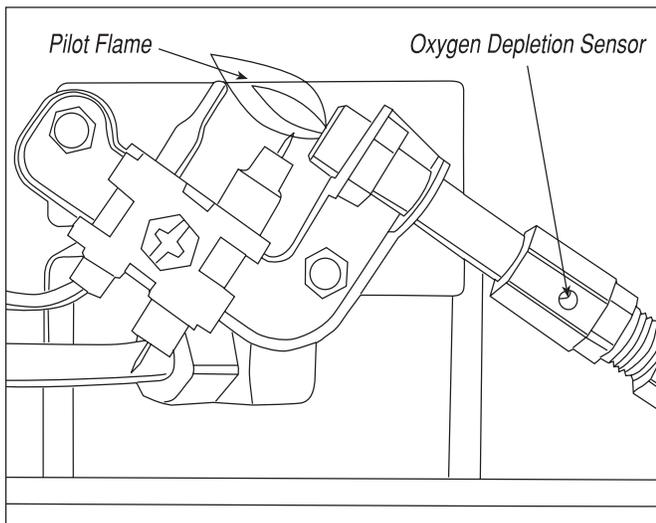

Figure 3
Visually inspect the pilot flame and burner periodically during use. The pilot flame should be blue in color (not yellow) and will extend beyond the thermocouple. The flame will surround the thermocouple just below the tip, see Figure 3. A slight yellow flame may occur where the pilot flame and main burner flame meet. The burner(s) should be bright orange (with a slight blue color around the border, a red-orange haze that is visible on the ceramic tile is acceptable) and without a noticeable flame. A blue flame that rolls out at the top of the ceramic tile indicates an
- 4 Remove (4) screws securing back cover to heater. Lift up slightly to release (2) plastic hooks on top of back cover.
- 6 Remove (3) screws attaching lower baffle to expose burner air openings.
- 9 Inspect and clean pilot (mounted to bracket) by using a vacuum or apply air pressure through the holes in the pilot indicated by the arrows in Figure 3.